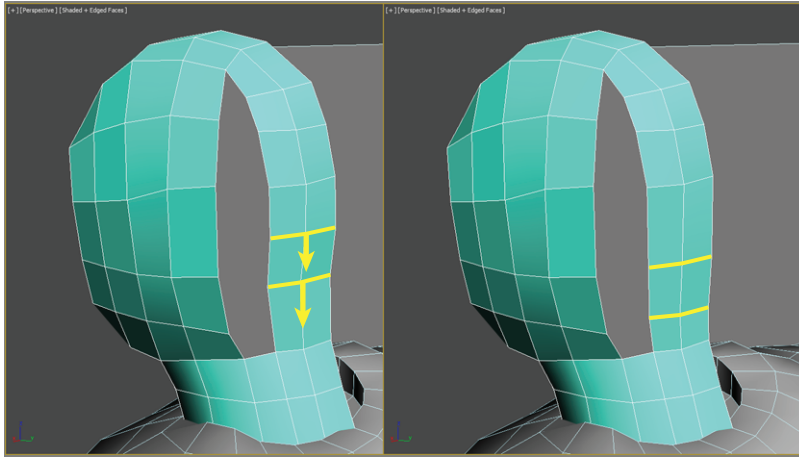

FIGURE 9.16 Select and move edges.
1. Select and move edges to line up with edges on the other side of the gap, as shown in Figure 9.16.